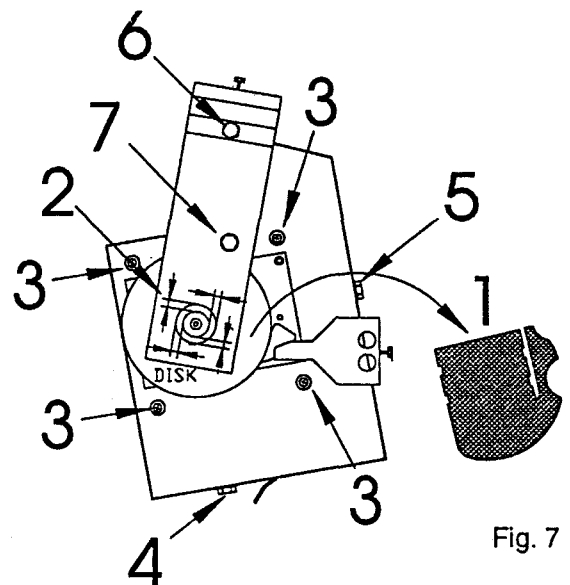
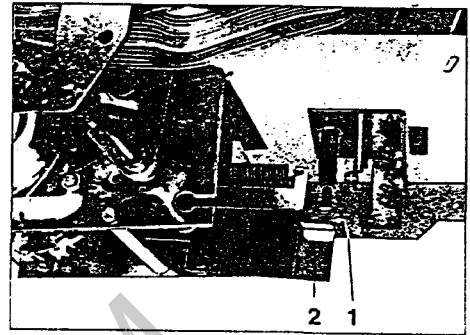

Fig. 7
Fig. 9
- Remove plastic cover from lid arm and take out magnetic pressure disc (Fig. 7, Pos. 1).
- The player hub and lid hole should be centred (Fig. 7, Pos. 2).
- Slacken four fixing screws (Fig. 7, Pos. 3) of Philips player.
- Adjustment with screw in front of player (Fig. 7, Pos. 4) and on the right side (Fig. 7, Pos. 5).
- Tighten four fixing screws (Fig. 7, Pos. 3) again.
- Adjust lid arm height with screw (Fig. 7, Pos. 7).
- Adjust screw at pusher shaft (Fig. 7, , Pos. 6) so that the clearance between lift lever (Fig. 9, Pos. 1) and gear (Fig. 9, Pos. 2) is approximately 0.2mm.